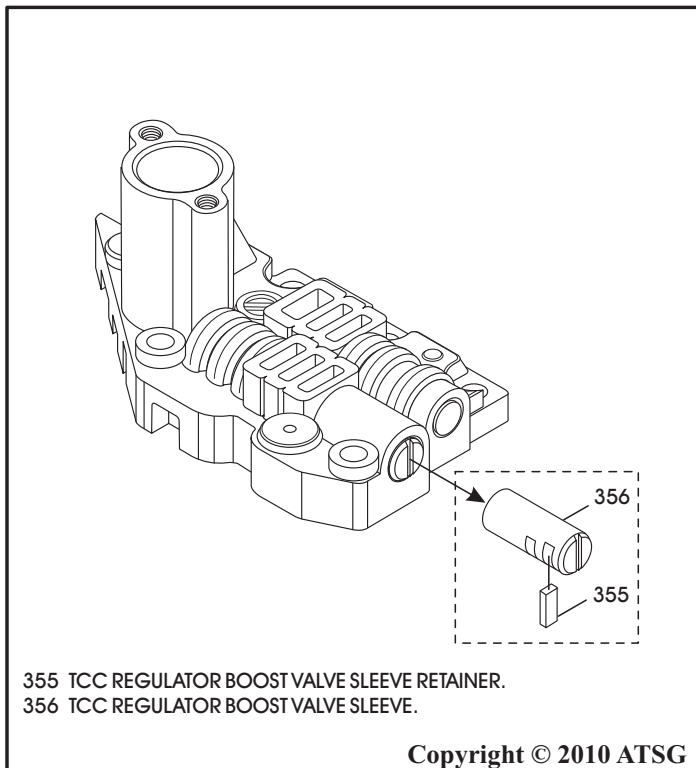

Figure 160
0. The TCC regulator boost valve sleeve has a slot for the retainer on only one side of the sleeve, as shown in Figure 160, and must be rotated to the proper position to accept the retainer.